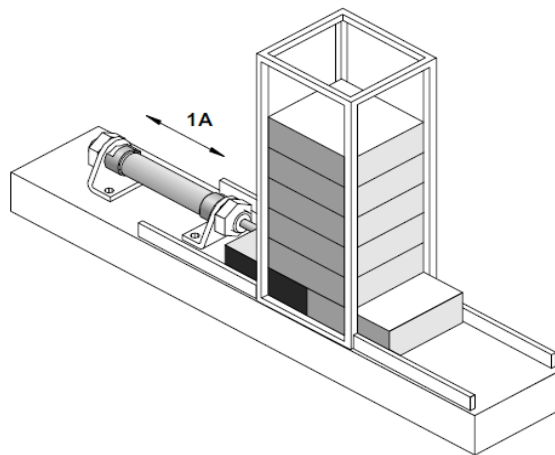

Figure 2 (c) / Rajah 2 (c)
- (c) From the gravity-feed magazine, wooden planks are required to be transferred into a clamping device. The process is initiated by pressing a push button switch, which activates the slide to push out one plank from the magazine. After the slide has fully reached the forward end position, it must return automatically to its starting position. With reference to Figure 2 (c), propose an electro-pneumatic circuit to operate the cylinder for this task.